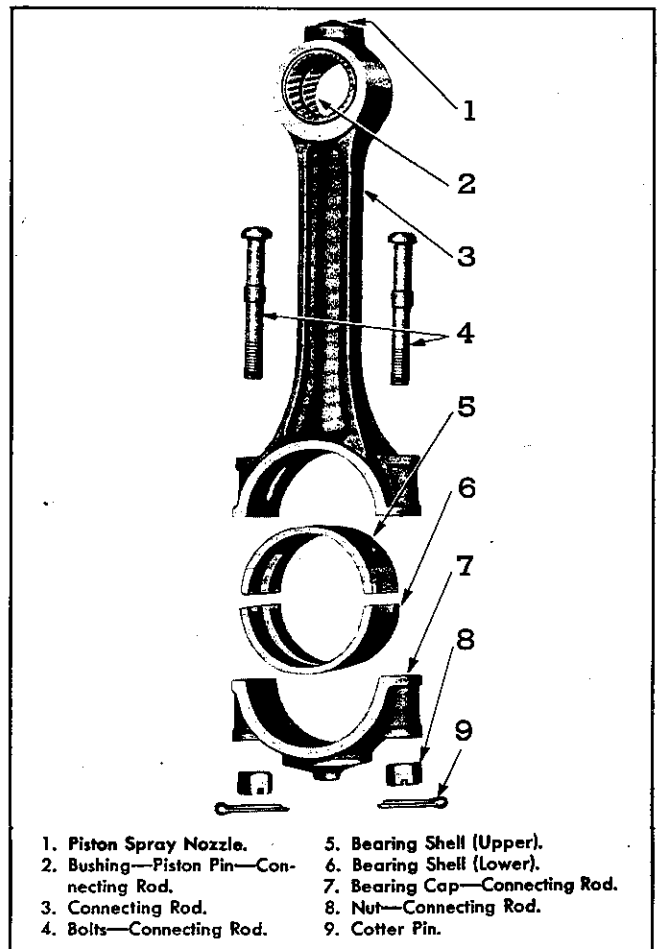

Fig. 9—Piston and Connecting Rod Details and Relative Location of Parts.
2. Wipe clean and lubricate each connecting rod crankshaft journal. Install upper bearing shell with the one short groove at each parting line—in the connecting rod and position rod onto crankshaft journal. (See Fig. 9.)